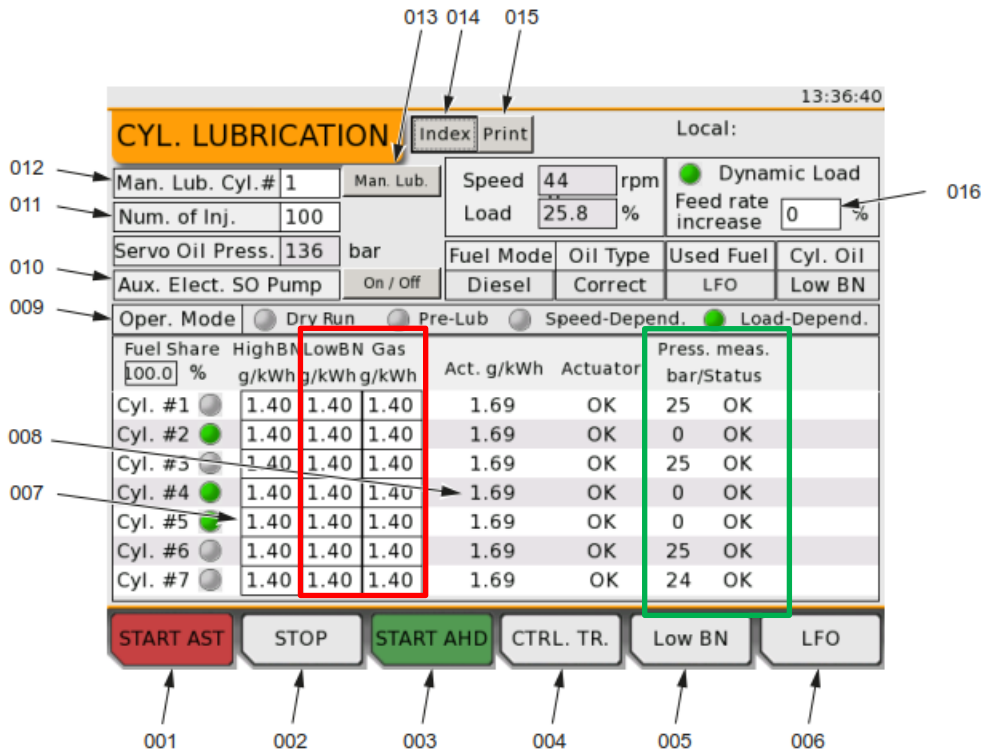

Figure 3: LDU-20 page - Cylinder Lubrication in the Operation Manual
Figure 3: Dual cylinder lubricating oil installation with iCAT as an optional application, enabling independent gas and liquid fuel (maximum 0.50% sulphur m/m) operation with automatic iCAT changeover
- 6) Enter the desired lubricating oil feed rate on the LowBN and Gas columns in the LDU page (refer to the red box in Figure 3). For more details refer to the Operation Manual.